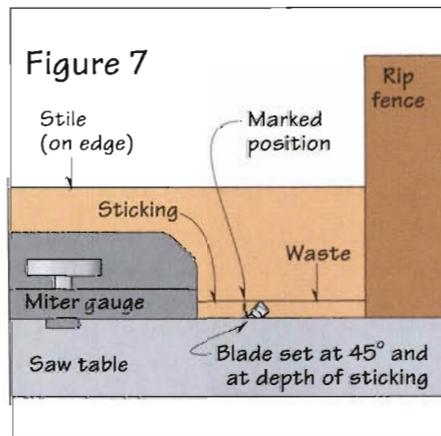

Figure 7
**Step 3.** With the cutting depth set, place a stile against the miter gauge and position the fence so that the blade will cut next to the marked cut line. (See *photo E* and *figure 7*.) Lock the fence in position, then miter-cut the sticking on all stile ends.